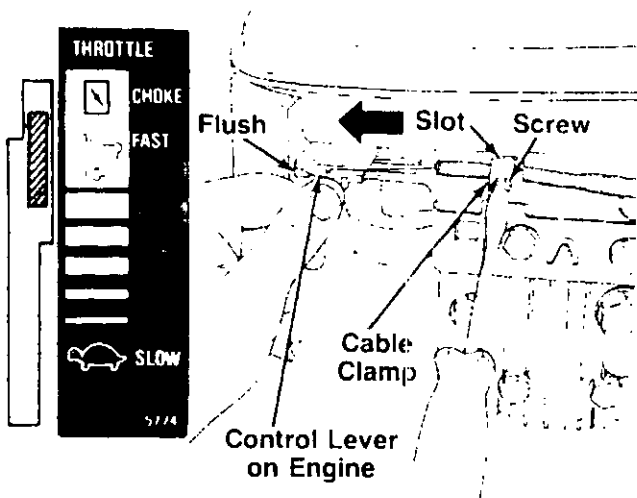

FIGURE 6C.—Models 436R and 439R
1. Push the throttle control lever on the handle all the way forward to CHOKE, then back it off **two "clicks"** (approximately 5/16"). See figure 6C.
2. The throttle control cable is attached to the upper handle. Route the throttle control cable under the lower handle and inside the handle mounting bracket. Hook the "Z" end of the throttle control cable into the hole in the control lever on the engine. See figure 6C.
3. Using a 5/16" wrench or nutdriver, remove the screw on the cable clamp shown in figure 6C. Slip the control cable under the clamp. Replace the screw (cable should be above the screw), but do not tighten (cable must still move freely beneath the clamp). Make certain the tab on the cable clamp is seated into the slot on the engine.
4. Push the control lever on the engine as far toward the **outside** of the engine as it will go. The edge of the control lever should be flush with the bracket on the engine. See figure 6C. Hold the control lever in this position as you tighten the screw on the cable clamp to secure the throttle cable.